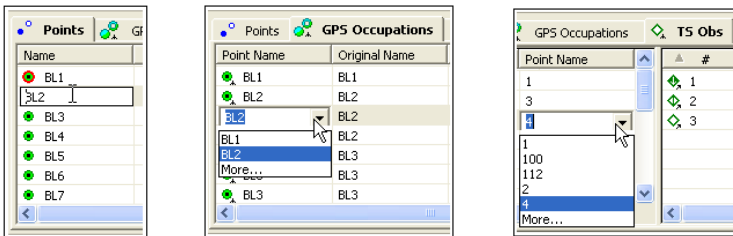

Figure 5-13. Select Point Name to Edit
1. Click a highlighted (or press **F2**) point name cell (Figure 5-13). To select data with certain parameters, use the appropriate dialog box (see “Selecting Data” on page 4-47 for details).